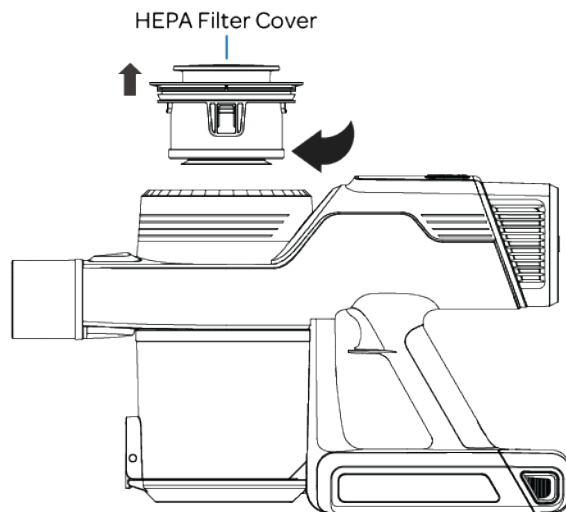
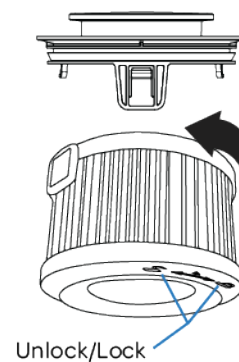

Figure 9
Figure 10
2. Lift the HEPA Filter Cover up to remove from the unit assembly. (Figure 9)
3. Turn the Dust Bin HEPA Filter to the left to unlock and release. (Figure 9, Figure 10)